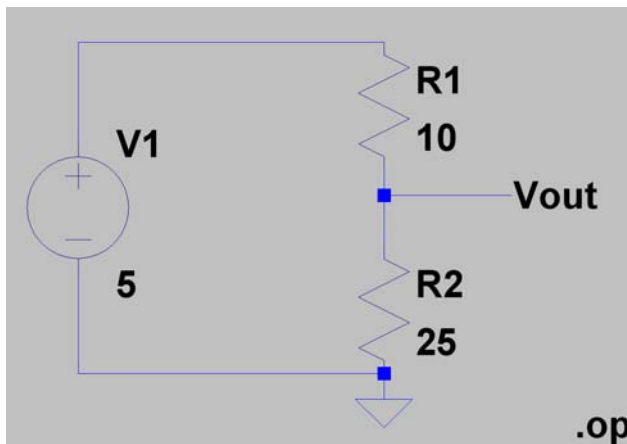

Figure 1.10: Voltage Divider Schematic
6. Once all the component values have been set they can be wired together. Use the 'draw wire' to connect them. See the schematic Figure 1.10 .